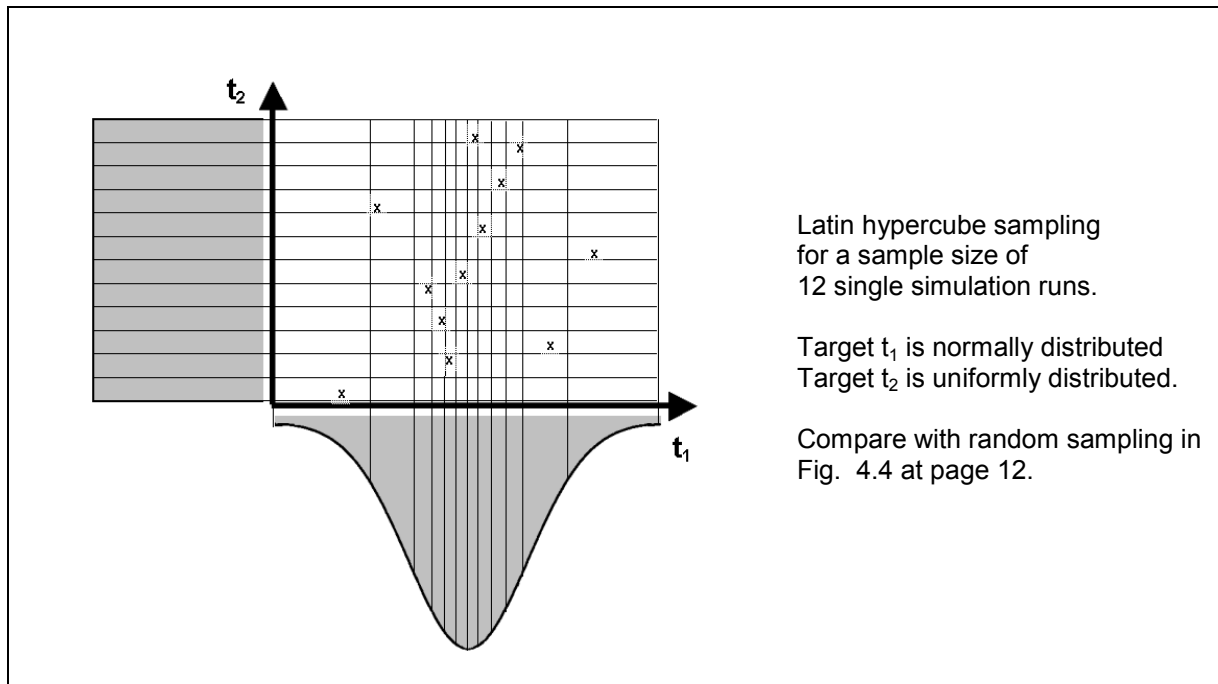

Fig. 6.1 Monte Carlo analysis: Latin hypercube sampling
- In random sampling, there is no assurance that sampling points will cover all regions of the selected distribution. With Latin hypercube sampling LHS this shortcoming is reduced: The sampling range of the target is divided into <nr_of_runs> intervals of equal probability according to the selected distribution and from each interval exactly one sampling point is drawn. For more information on LHS check Fig. 6.1 below and see Imam & Helton (1998) and Helton & Davis (2000).